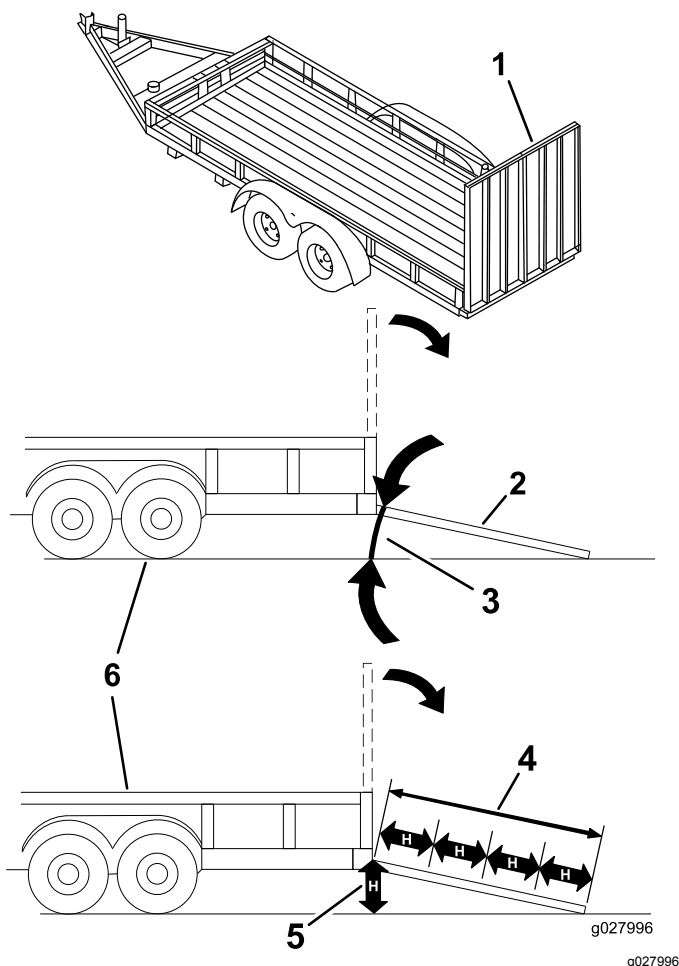

Figure 26
Loading a machine onto a trailer or truck increases the possibility of tip-over and could cause serious injury or death (Figure 26).
3. Lower the ramp, ensuring that the angle between the ramp and the ground does not exceed 15 degrees (Figure 26).
1. Lower the ramp, ensuring that the angle between the ramp and the ground does not exceed 15 degrees (Figure 26).